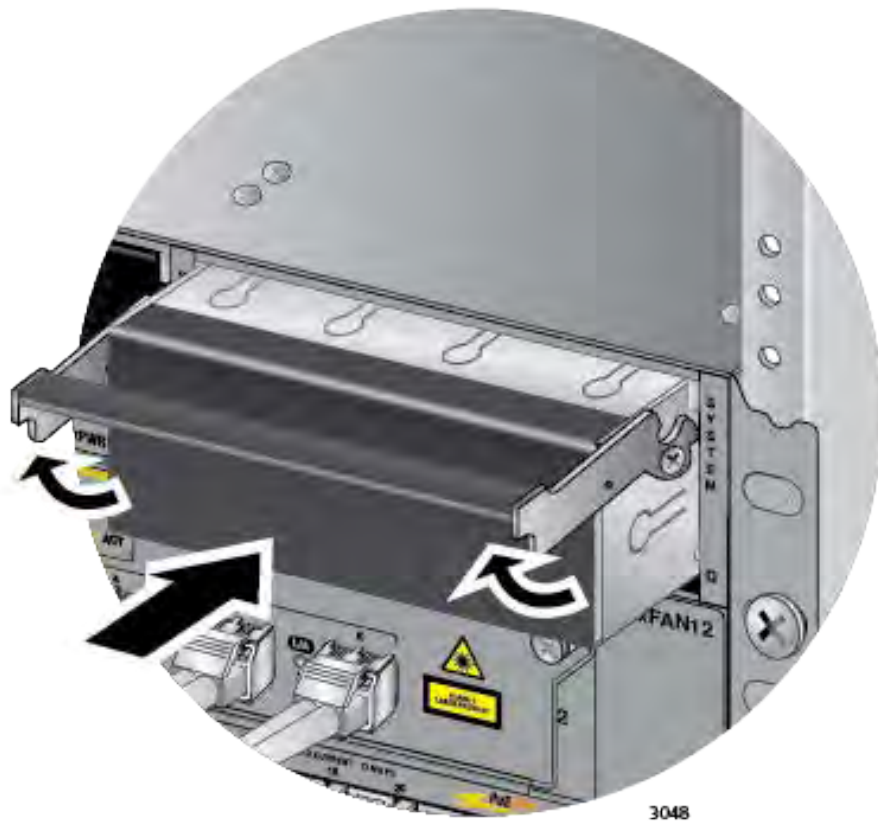

Figure 161. Installing a Blank Power Supply Slot Cover
5. Place the locking handle on the slot cover in the up position and slide the cover into the empty power supply slot, as shown in Figure 161 on page 270.